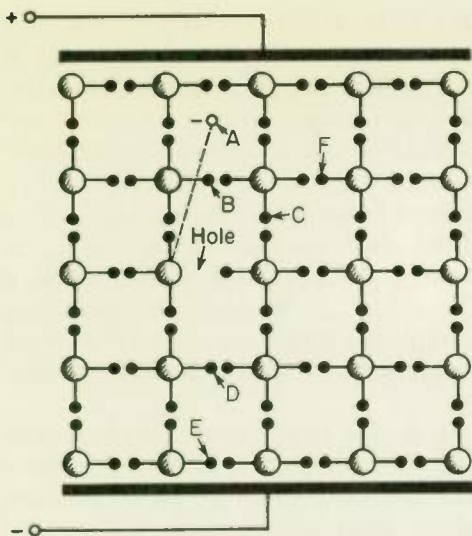

Fig. 8 Semiconductor crystal with an electron broken loose from its bond.
HOLES ARE POSITIVE CHARGE CARRIERS . . . In Fig. 8 ignore for the moment the voltage shown across the crystal. Electron A has broken away from its atom and become a free electron wandering through the crystal structure. The vacant spot in the covalent
A hole exerts a strong attraction on the valence electrons of adjacent electrons in an effort to fill up the valence ring of its atom. This attraction is strong enough to break adjacent covalent bonds. For example in Fig. 8, electron C might be broken from its bond and pulled over to fill the present vacancy. Then the hole has moved from its original position to point C. When the hole is at C it may break away electron F, thus moving the hole to position (79) _____.
CURRENT FLOW THROUGH SEMICONDUCTORS . . . We have mentioned that free electrons and holes wander around randomly in a semiconductor material. When a voltage is applied across the material, as in Fig. 8, where the material is clamped between two charged metal plates, the electrons and holes start drifting in a general direction. The negatively charged electrons drift towards the (82) _____ plate and the positively charged holes move towards the (83) _____ plate. The holes and the electrons move in (84) _____ directions. Because they carry charges, their movement in a specific direction forms a (85) _____. Because they are oppositely charged carriers moving in opposite direction, the total current is the (86) _____ of the hole current and the free electron current.
Refer to Fig. 8. The way the hole moves to the negative plate is as follows. Electron (87) _____ breaks from its bond and moves into where the present hole now is. Then the hole is at point D. Next, electron (88) _____ moves up leaving the hole at point (89) _____. Next an electron from the negative plate moves over to fill up the hole at point E. The hole then no longer exists. At the same time as this is going on, the free electron A drifts on until it reaches the positive plate, which absorbs it out of the semiconductor. Both the free electron and the hole have now disappeared. The material would now be an insulator except for the fact that other free electrons and holes are continually formed in the material by energy the bound electrons pick up from the heat in the material.